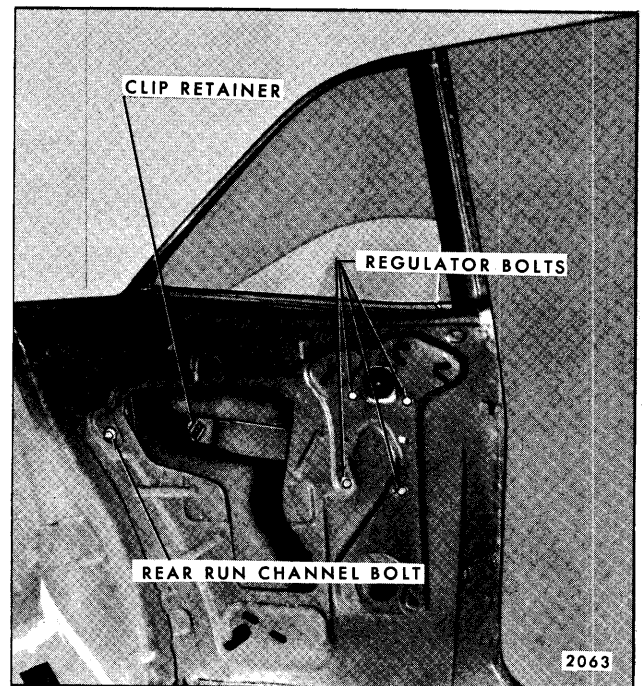

Fig. 7-39—Rear Quarter Hardware Attachment "A-B-X" Closed Styles
4. On "A & B" styles, remove regulator to inner panel screws and remove regulator through large access hole (see Fig. 7-39).